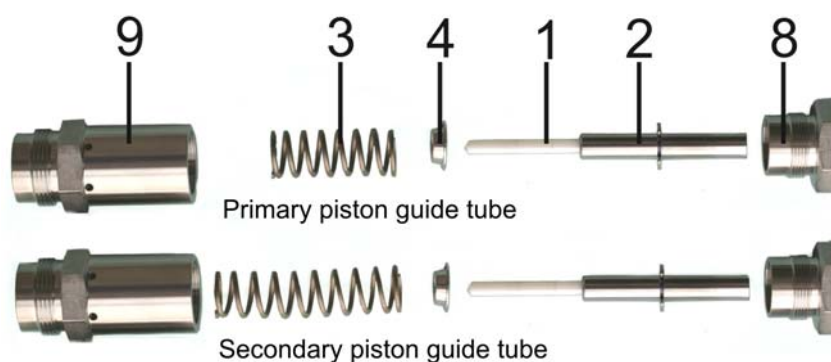

Fig. 7. Exploded view of piston guide tubes: 1. piston, 2. piston shaft, 3. spring, 4. ring, 8. piston cartridge screw, 9. piston cartridge.
1. Open both piston guide tubes to release pistons and piston springs (Figure 7).
5. Re-assembly the piston guide tubes (see figure 7).